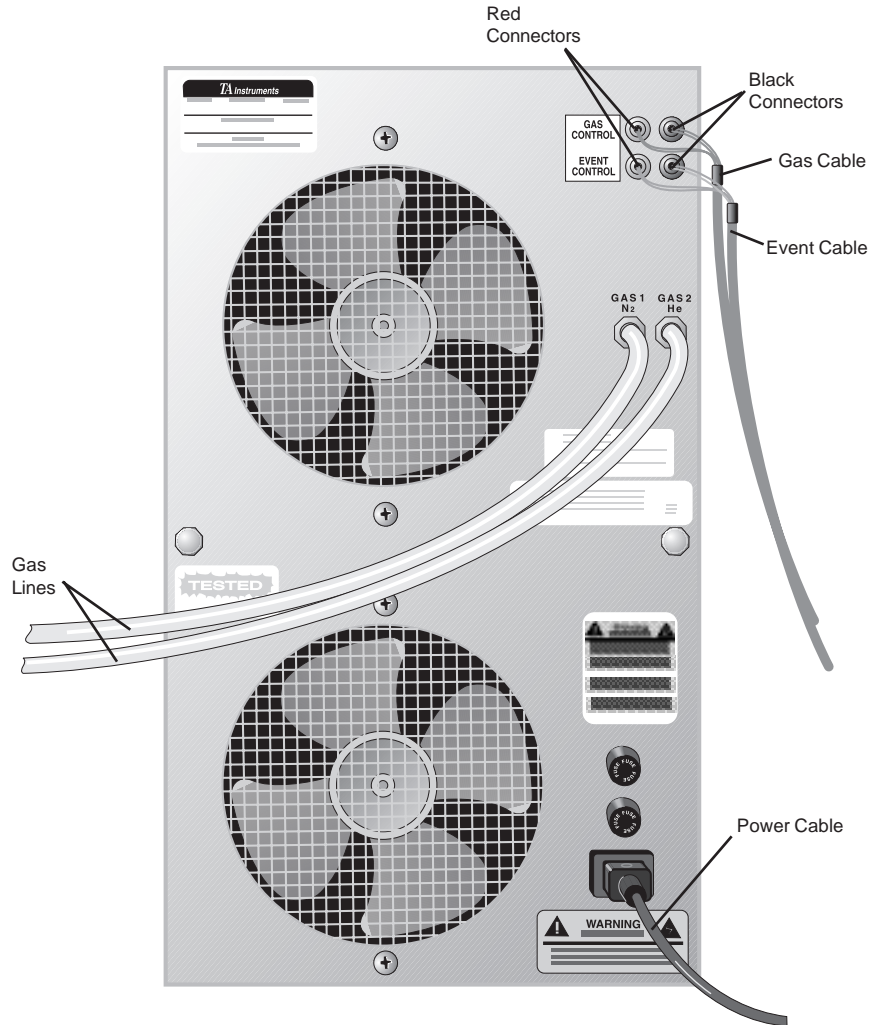

Figure RCS.10
4. Connect the gas cable to the terminals on the rear of the RCS cabinet and the other end to the DSC or Module Interface using the appropriate connector (see Figure RCS.10 on the next page).